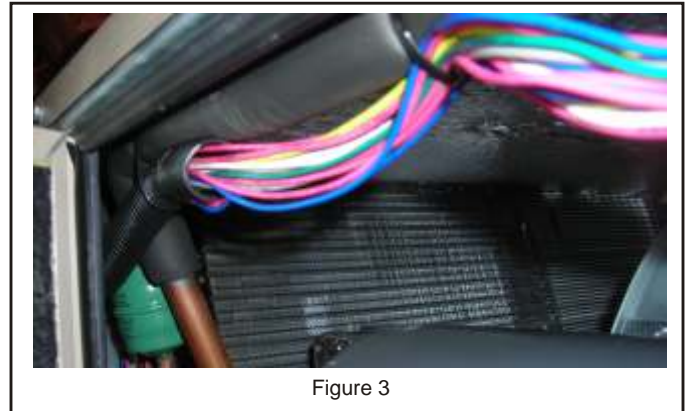

Figure 3
- C. Follow wires all the way through blower section. **See Figure 3.**